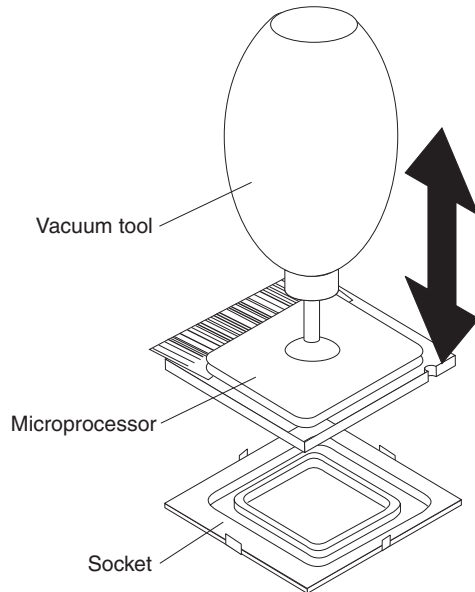

Figure 57. Installing the microprocessor
- a. Squeeze and hold the bladder of the vacuum tool; then, place the suction cup on the microprocessor and release the bladder (see Figure 57).